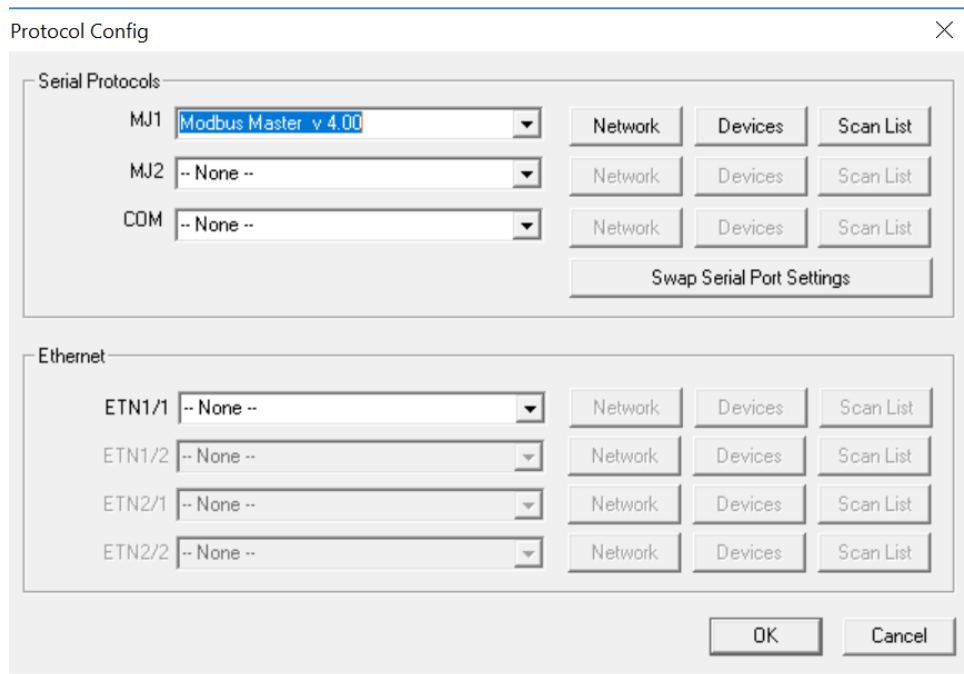

Figure 8.1 - Protocol Config Dialog
1. On the main Cscape screen, select the **Controller** menu and its **Hardware Configuration** sub-menu to open the Hardware Configuration dialog (Figure 8.1).